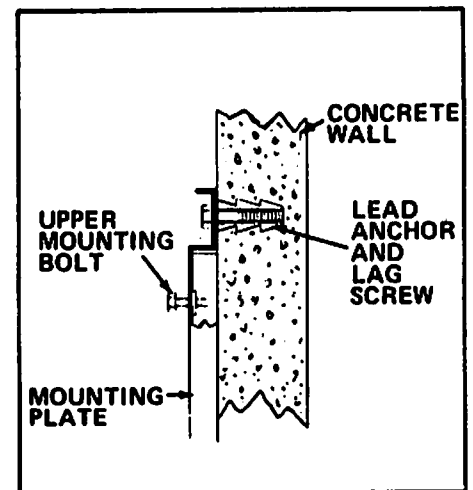

FIGURE 10. INSTALLING WALL MOUNTING PLATE
- Install washer-head upper mounting bolts in mounting plate. (See Figure 10).